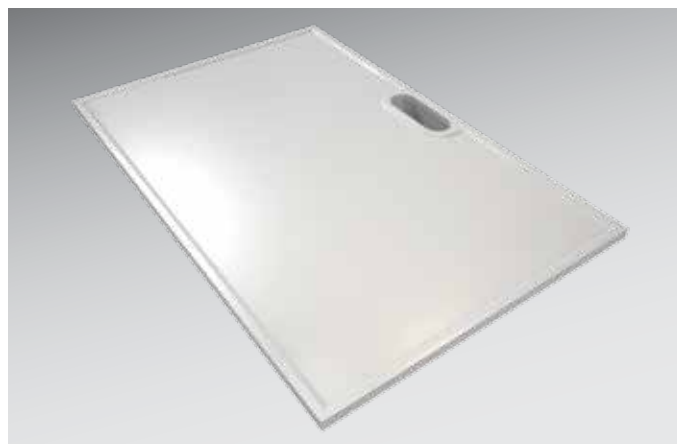

Figure 9
- by means of a spillover weir (see Figure 9). Here, the cup sink is also mounted onto the fume-cupboard plate from below.